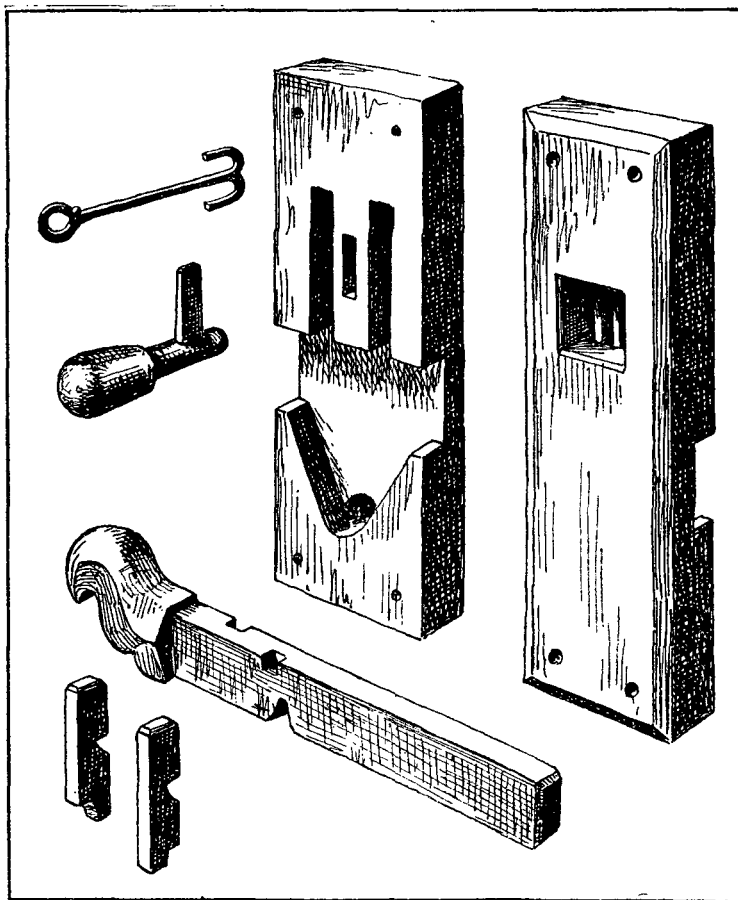

Fig. 4. Wooden Lock from China.
*Chinese Lock, No. 2.*—The only difference between this lock (fig. 4)